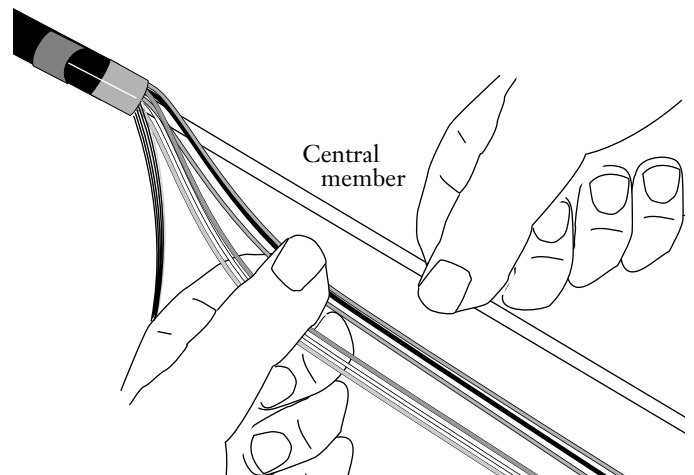

Figure 29
- a) Working from the end of the cable back to the Position 1 tape mark, carefully unwind the buffer tubes from around the central member of the cable (Figure 29). Use the buffer tube switchback points to assist in unwinding. Be careful not to bend or kink any of the buffer tubes.